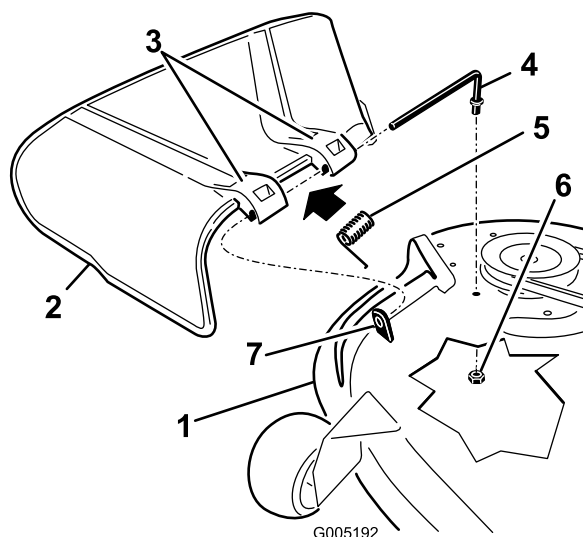

Figure 58
1. Locate items shown in Figure 58.
2. Remove the nut (3/8 inch) from the rod under the mower (Figure 58).
3. Slide the rod out of the short stand-off, spring, and grass deflector (Figure 58). Remove the damaged or worn grass deflector.
4. Replace the grass deflector (Figure 58).
6. Place the spring on the rod, with end wires down, and between the grass deflector brackets. Slide rod through second grass deflector bracket (Figure 58).
7. Insert rod at front of grass deflector into short stand-off on deck. Secure rear end of rod into the mower with a nut (3/8 inch) (Figure 58).